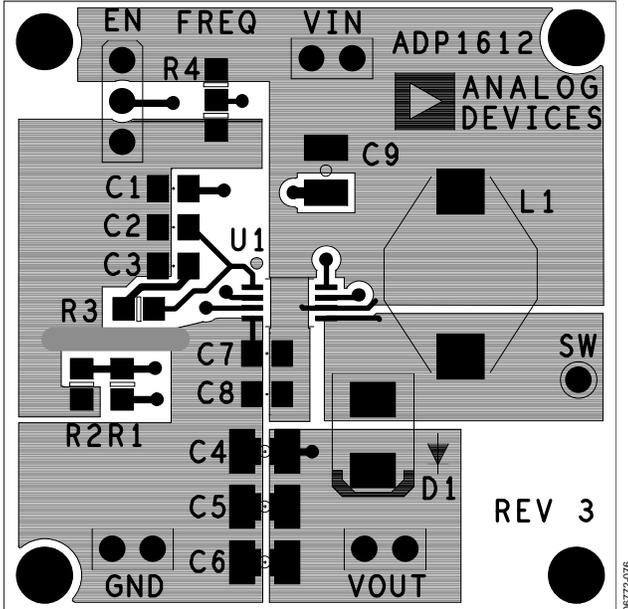

Figure 76. Example Layout for ADP1612/ADP1613 Boost Application (Top Layer)
- Keep the low ESR input capacitor, C_{IN} (labeled as C7 in Figure 76), close to V_{IN} and GND. This minimizes noise injected into the part from board parasitic inductance.
- Keep the high current path from C_{IN} (labeled as C7 in Figure 76) through the L1 inductor to SW and GND as short as possible.
- Keep the high current path from V_{IN} through L1, the rectifier (D1) and the output capacitor, C_{OUT} (labeled as C4 in Figure 76) as short as possible.
- Connect the softstart capacitor, C_{SS} (labeled as C1 in Figure 76) as close to the device as possible. Connect the ground of the softstart capacitor to an AGND plane that makes a Kelvin connection to the GND pin.